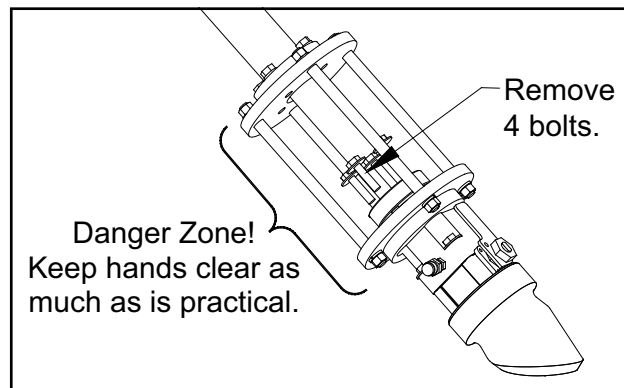

Figure 82: Transducer Flange Bolt Removal
WARNING! During the installation and removal of a transducer, the indicated danger zone areas are potential pinch points (see *Figure 82 on page 99*). Attention is required to ensure safe use.
6. Remove the four bolts from the transducer flange with a 9/16" socket wrench (see *Figure 82* below).
WARNING! During the installation and removal of a transducer, the indicated danger zone areas are potential pinch points (see *Figure 82* above). Attention is required to ensure safe use.